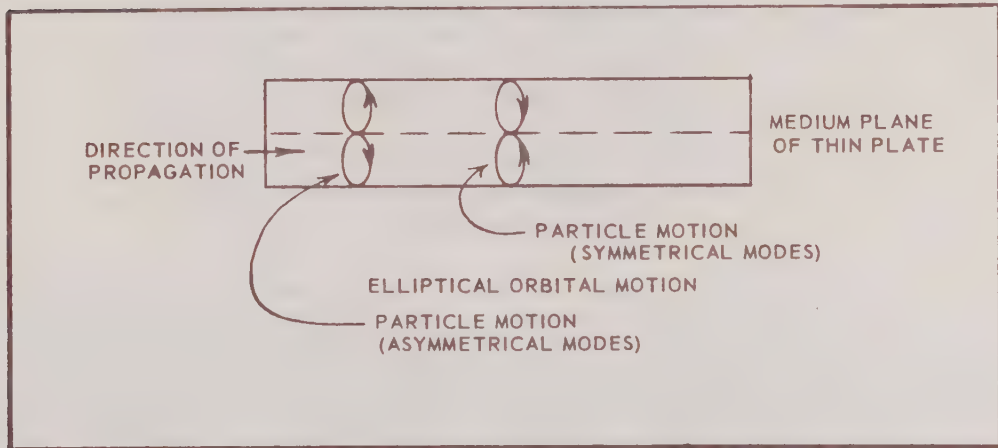

Figure B-12 Particle Motion
- d. Lamb waves: In thin sheet material or thin walled tubing, a type of wave called the "lamb wave" can be propagated. This is possible only when the thickness of the material is approximately comparable to the wavelength of the waves propagated. Lamb waves can exist in two types and many possible modes. The particle motion of the two types, symmetrical and asymmetrical, are illustrated in Figure B-12.